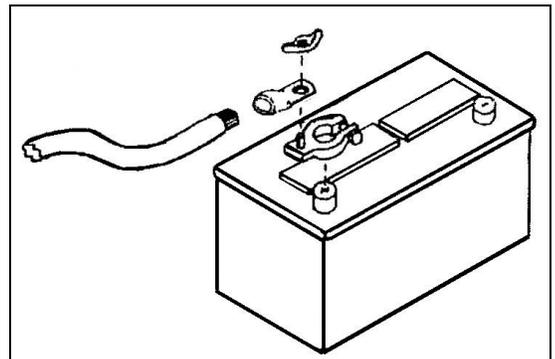

Figure 3
10. Attach the terminal ends to the battery. Fasten lugs to terminal ends with wing nuts (**Figure 3**).